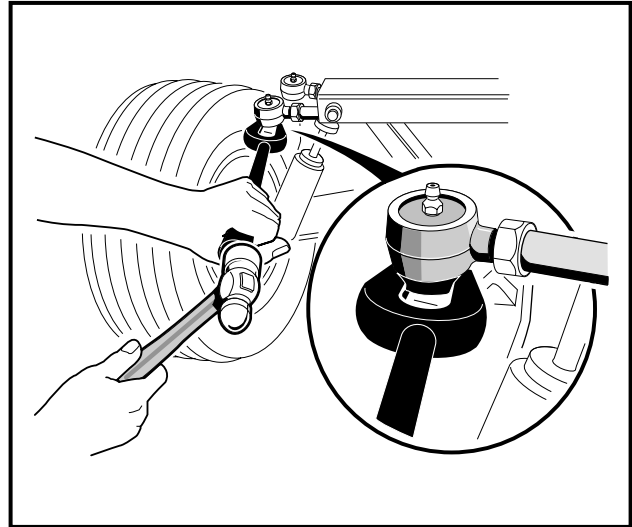
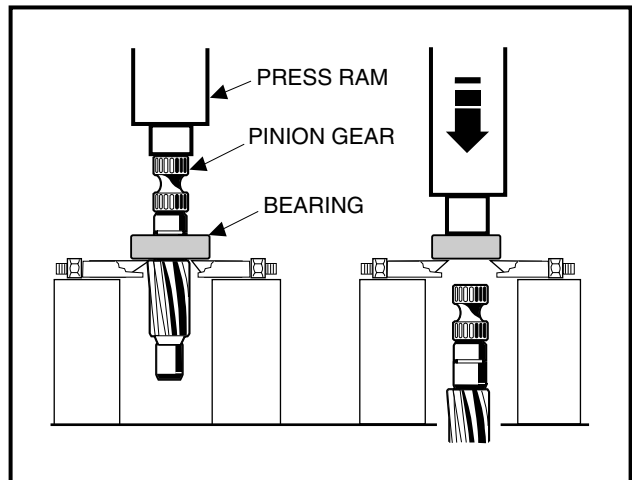
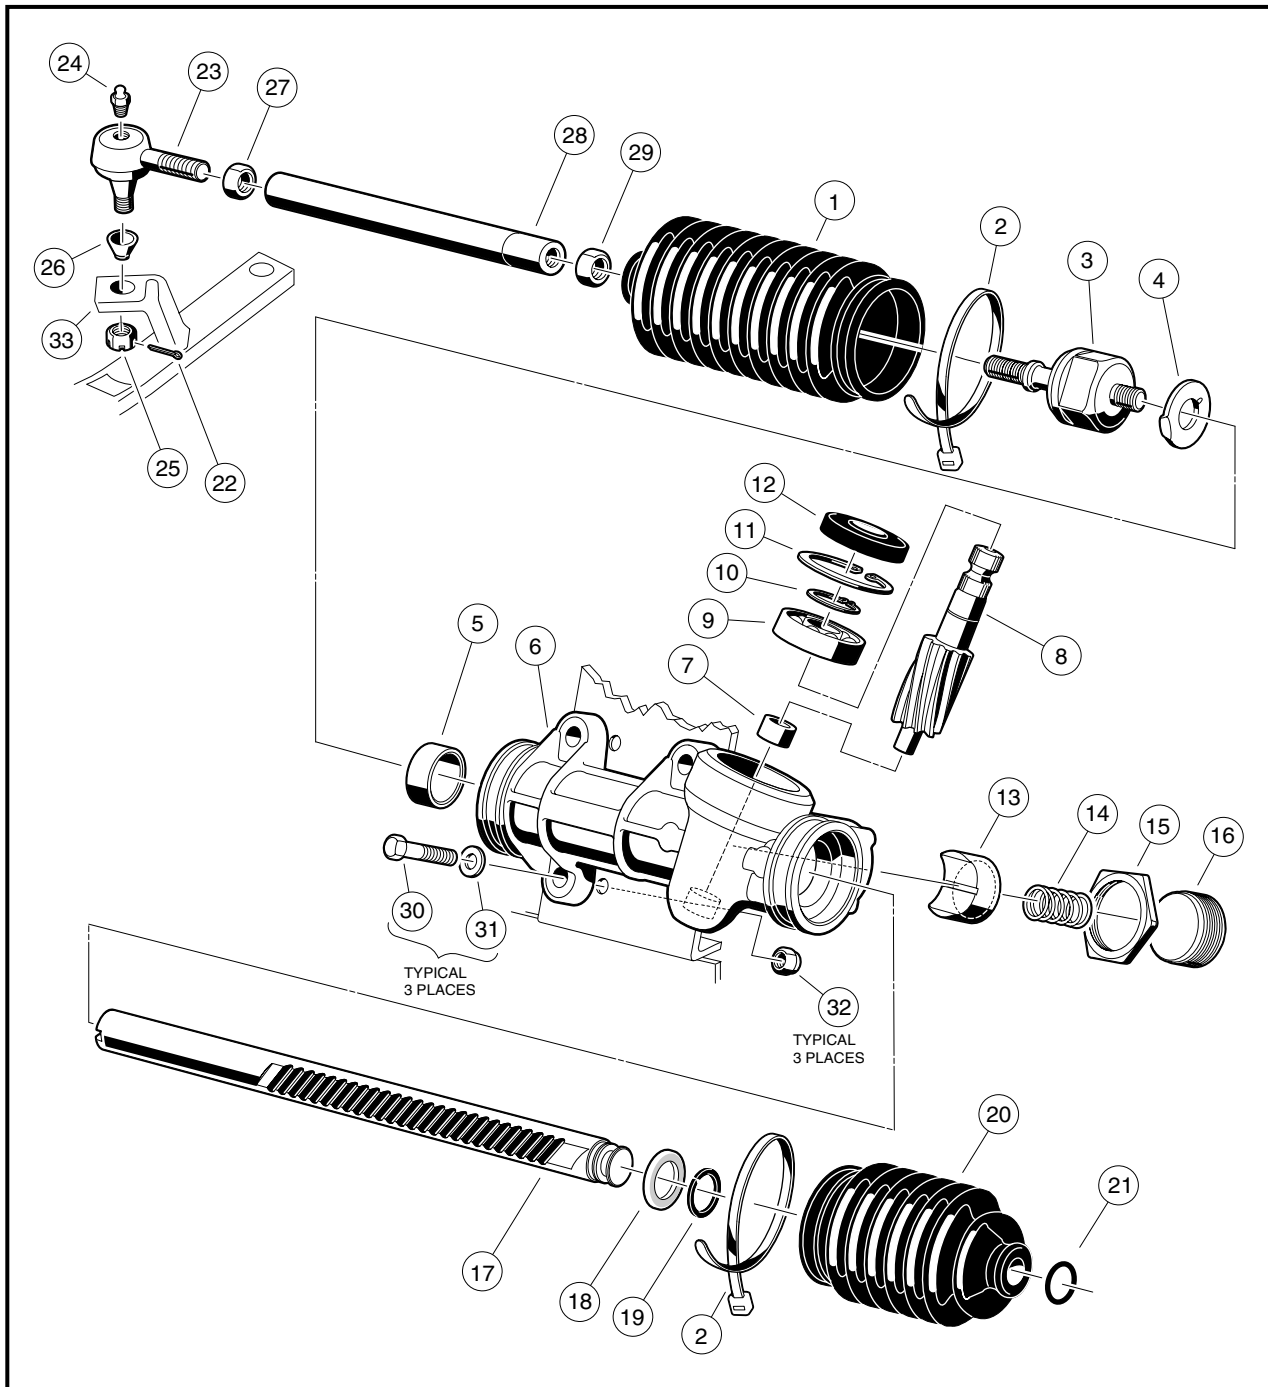
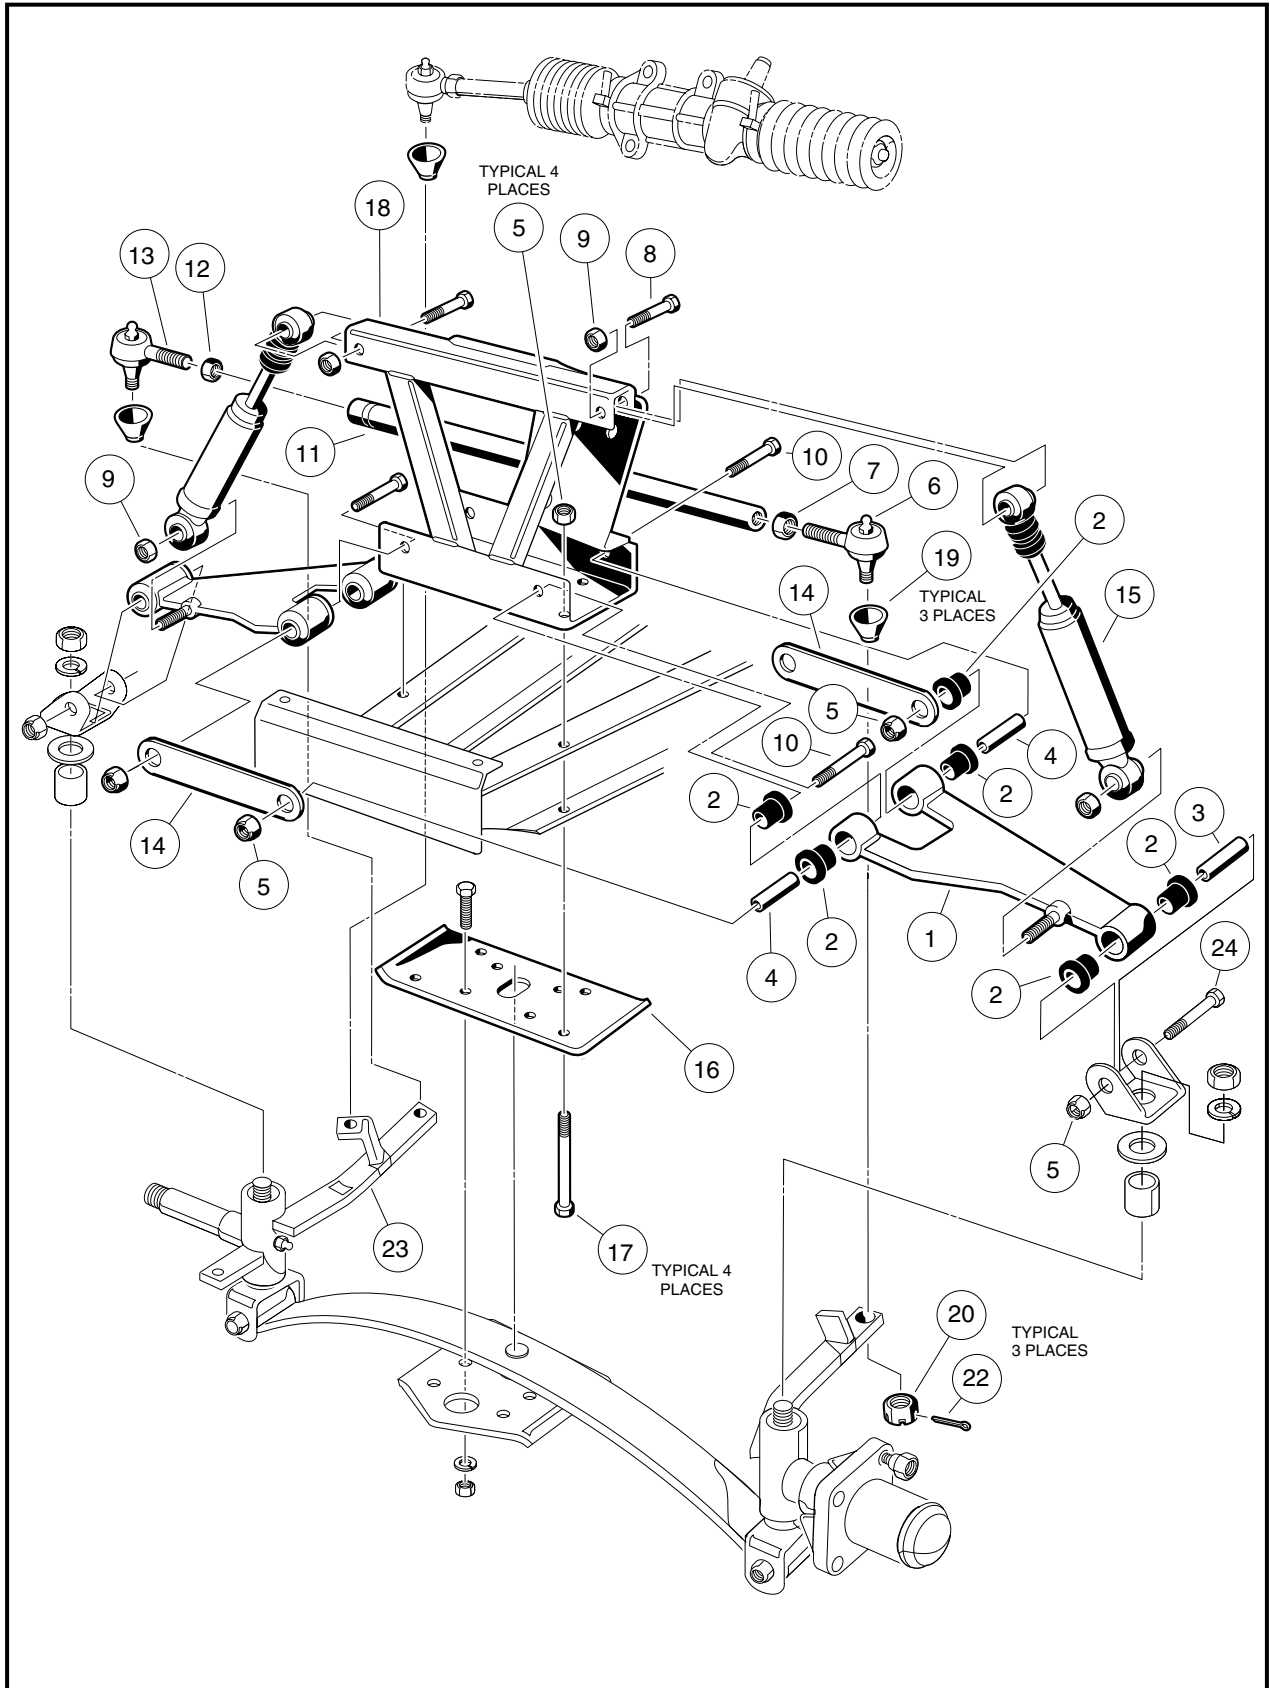

Figure 7-8 Ball Joint Tool
Figure 7-10 Remove Bearing from Pinion
Figure 7-12 Steering Gear
Figure 7-21 Two-Wheel Brake Vehicle – Upper Portion
2. Loosen the nuts (27 and 29) and turn the drag link (28) (**Figure 7-12, Page 7-10**) to adjust the drag link rod. Adjust the link rod with the steering wheel turned all the way to the right, so the passenger side spindle stop lightly touches the passenger side A-Plate. The internal stop on the rack must reach its limit of travel at the same time the spindle stops against the passenger side A-plate (with vehicle wheels turned to the right).
3. When all adjustments have been completed, tighten the nuts (27 and 29) on the drag link assembly with an open end wrench. Tighten nuts to 21 ft-lb (28.4 N·m) (**Figure 7-12, Page 7-10**).
- WHEN TIGHTENING THE NUTS (27 AND 29), MAKE SURE THE DRAG LINK (28) DOES NOT TURN (**FIGURE 7-12, PAGE 7-10**).
4. Straighten wheels and then turn steering wheel from lock to lock. Wheels should turn smoothly and easily. If steering wheel does not turn smoothly and easily, inspect steering assemblies; e.g., ball joints (23) (**Figure 7-12, Page 7-10**) and (6 and 13) (**Figure 7-21, Page 7-17**), spindle bushings (3 and 4) (**Figure 7-22, Page 7-18**), wave washers (20) (**Figure 7-22, Page 7-18**), and rack assembly (17) (**Figure 7-12, Page 7-10**). Also inspect front suspension assemblies; e.g., A-Plates (1) (**Figure 7-21, Page 7-17**) urethane bushings (2) (**Figure 7-21, Page 7-17**) and leaf springs (6) (**Figure 7-22, Page 7-18**). Replace components as necessary.
2. Remove the cotter pin (22) and ball joint retaining nut (25) (**Figure 7-12, Page 7-10**).
3. Using a ball joint removal tool, remove the ball joint (23) (**Figure 7-12, Page 7-10**) from the spindle assembly. **See Figure 7-8, Page 7-8**.
4. Remove the bolts (30), washers (31), and locknuts (32) from the steering rack assembly mounting bracket (**Figure 7-12, Page 7-10**).
- THE BALL JOINT (23) (**FIGURE 7-12, PAGE 7-10**) HAS LEFT-HAND THREADS.
1. Remove ball joint and inspect it for excessive wear (**Figure 7-8, Page 7-8**).
2. Remove the drag link (28) (**Figure 7-12, Page 7-10**).
3. Remove both bellows clamps (2) (plastic wire ties) (**Figure 7-12, Page 7-10**).
4. Remove the hex nut (29) and slide off the dust seal bellows (1) (**Figure 7-12, Page 7-10**).
5. Remove the retaining ring (21), then slide off dust seal bellows (20) (**Figure 7-12, Page 7-10**).
6. Remove the rack screw locknut (15), rack guide screw (16), rack guide pressure spring (14), and the rack guide (13) (**Figure 7-12, Page 7-10**).
7. Remove the universal joint assembly from the pinion (8) by fully removing the bolt and then sliding off the universal joint (**Figure 7-12, Page 7-10**).
8. If necessary, remove the dust seal (12) (**Figure 7-12, Page 7-10**). See following NOTE.
- IF THE DUST SEAL (12) IS REMOVED, REPLACE WITH A NEW ONE (**FIGURE 7-12, PAGE 7-10**).
9. Using snap ring pliers, remove the internal snap ring (11) (**Figure 7-12, Page 7-10**).
11. If the ball bearing (9) has been damaged, remove the external snap ring (10) (**Figure 7-12, Page 7-10**) and press the bearing off (**Figure 7-10, Page 7-8**).
12. Remove retaining ring (19) and stop washer (18), then remove rack (17) from housing (6) (**Figure 7-12, Page 7-10**).
14. Inspect the bushing (5) for excessive wear. If wear is excessive, replace the steering box assembly (Club Car Part No. 101878302) (**Figure 7-12, Page 7-10**).
3. Apply a liberal amount of EP grease to the teeth of the rack (17), then slide the rack through the bushing (5) and housing (6). Install the stop washer (18) and retaining ring (19) to the end of the rack (**Figure 7-12, Page 7-10**).
4. If the bearing (9) was removed, press on a new bearing, exerting all pressure on the inner race (grease the bearing before installing it). Then install the external snap ring (10) (**Figure 7-12, Page 7-10**).
5. If the needle bearing (7) is damaged, the steering box assembly (Club Car Part No. 101878302) must be replaced (**Figure 7-12, Page 7-10**).
6. Install pinion (8) and bearing (9) assembly into the housing (6) (**Figure 7-12, Page 7-10**). Make sure the rack gear teeth will mesh with the gear teeth on the pinion. The rack may need to be rotated slightly while lightly tapping on the pinion-bearing assembly with a rubber mallet. **See following CAUTION.**
7. Install the internal snap ring (11) (**Figure 7-12, Page 7-10**).
9. Apply a small amount of grease to the rack guide (13) where it comes into contact with the rack (17) (**Figure 7-12, Page 7-10**).
10. Place a few drops of Loctite® 222 to the threads of the screw (16) (**Figure 7-12, Page 7-10**).
11. Install the rack guide (13), pressure spring (14), and screw (16). The screw should be threaded in until a rotational torque of 10 in-lb (1.13 N-m) is achieved (**Figure 7-12, Page 7-10**).
12. Install the dust seal bellows (20) and retaining ring (21) **(Figure 7-12, Page 7-10)**.